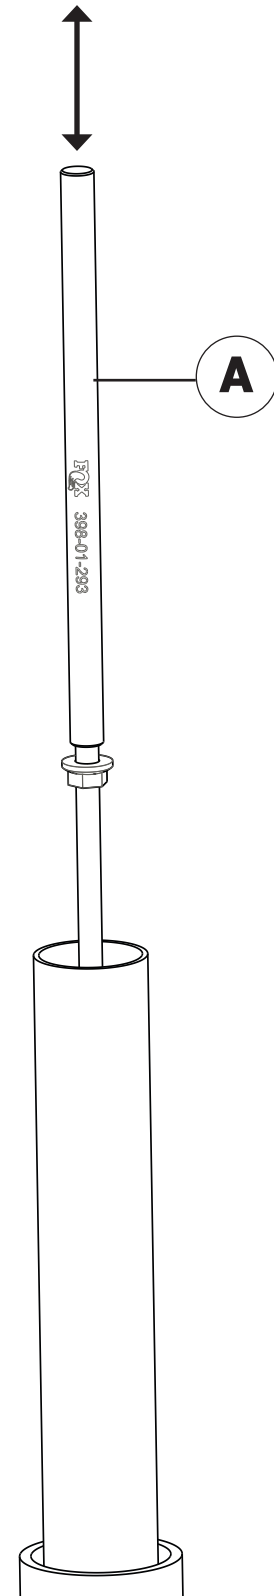

Fig. 10: Cartridge shaft bleed tool installed (A); bleed air out of cartridge by cycling the shaft.
- Bleed air from the cartridge by cycling the shaft to full compression and full extension 10 times (Fig. 10).